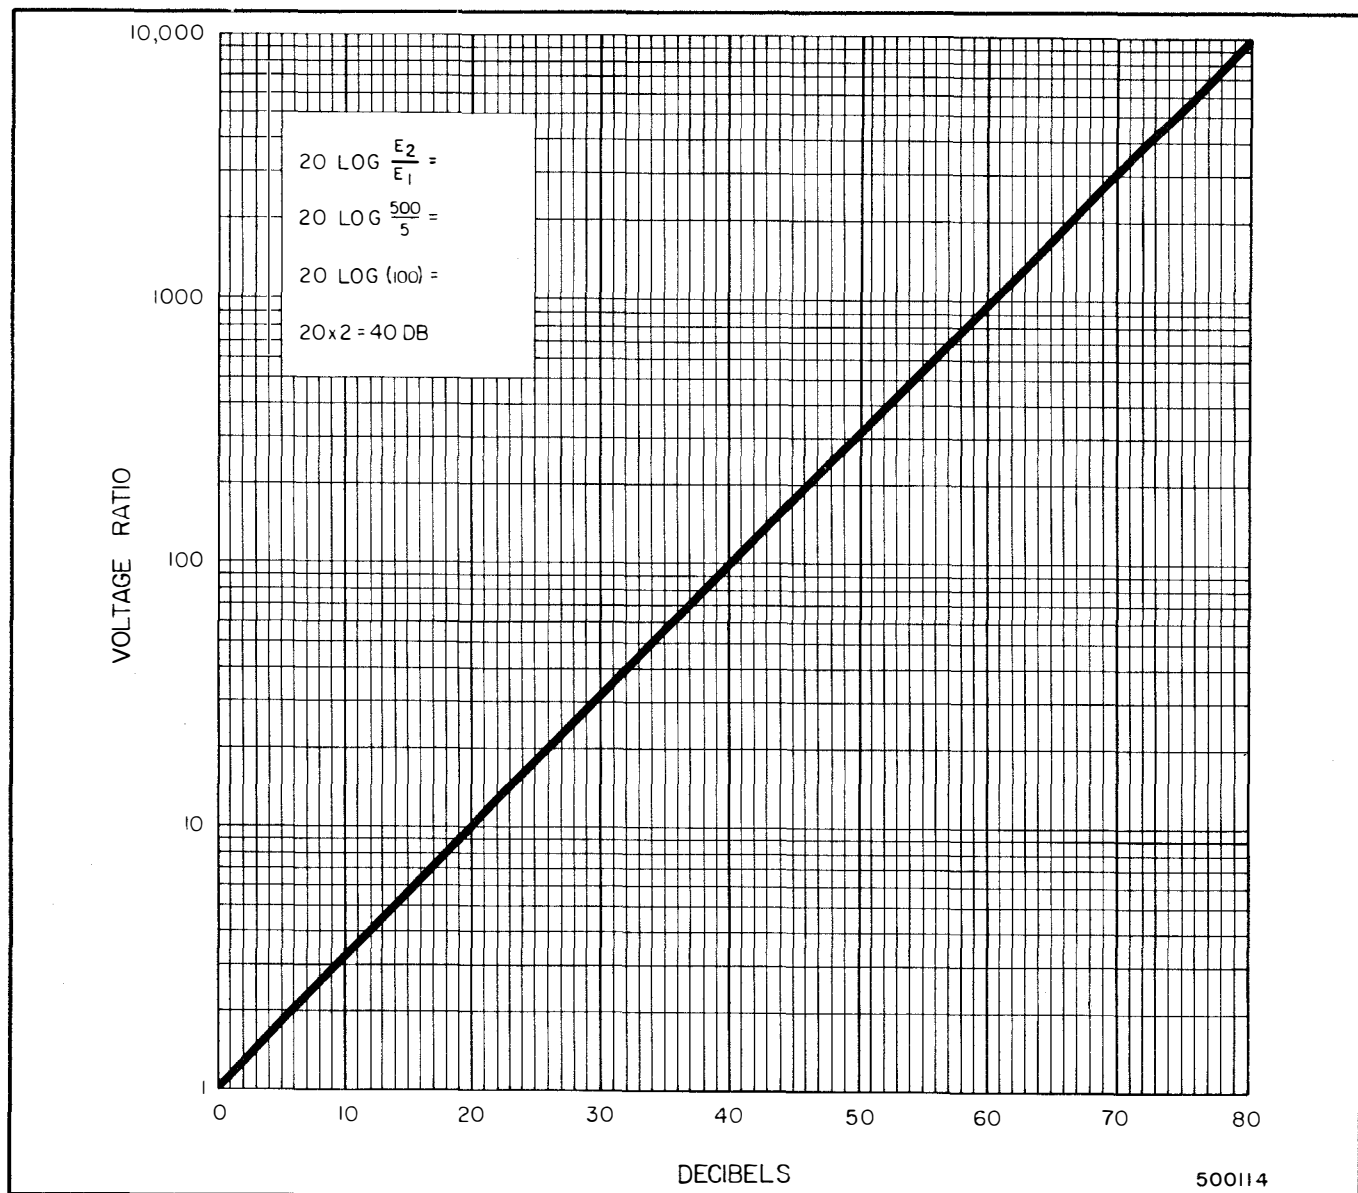

Figure 3-5. Voltage Ratio to Decibel Conversion
l. To observe signals of comparable amplitude, the AMPLITUDE SCALE selector should be set to LIN. The LIN scale of the crt screen is calibrated into ten divisions. The horizontal calibration lines are read at the right side of the screen. Simultaneous examination of signals of wide divergence of amplitude will require the log setting of this switch. In this position, the calibration range is from 0 db to 40 db in 5 db divisions, as indicated by the dots on the left side of the screen. Note that the LOG calibration is not valid when narrow pulses are measured. To convert from voltage to decibels, see figure 3-5. This illustration presents an example using a voltage ratio of 500 mv to 5 mv.